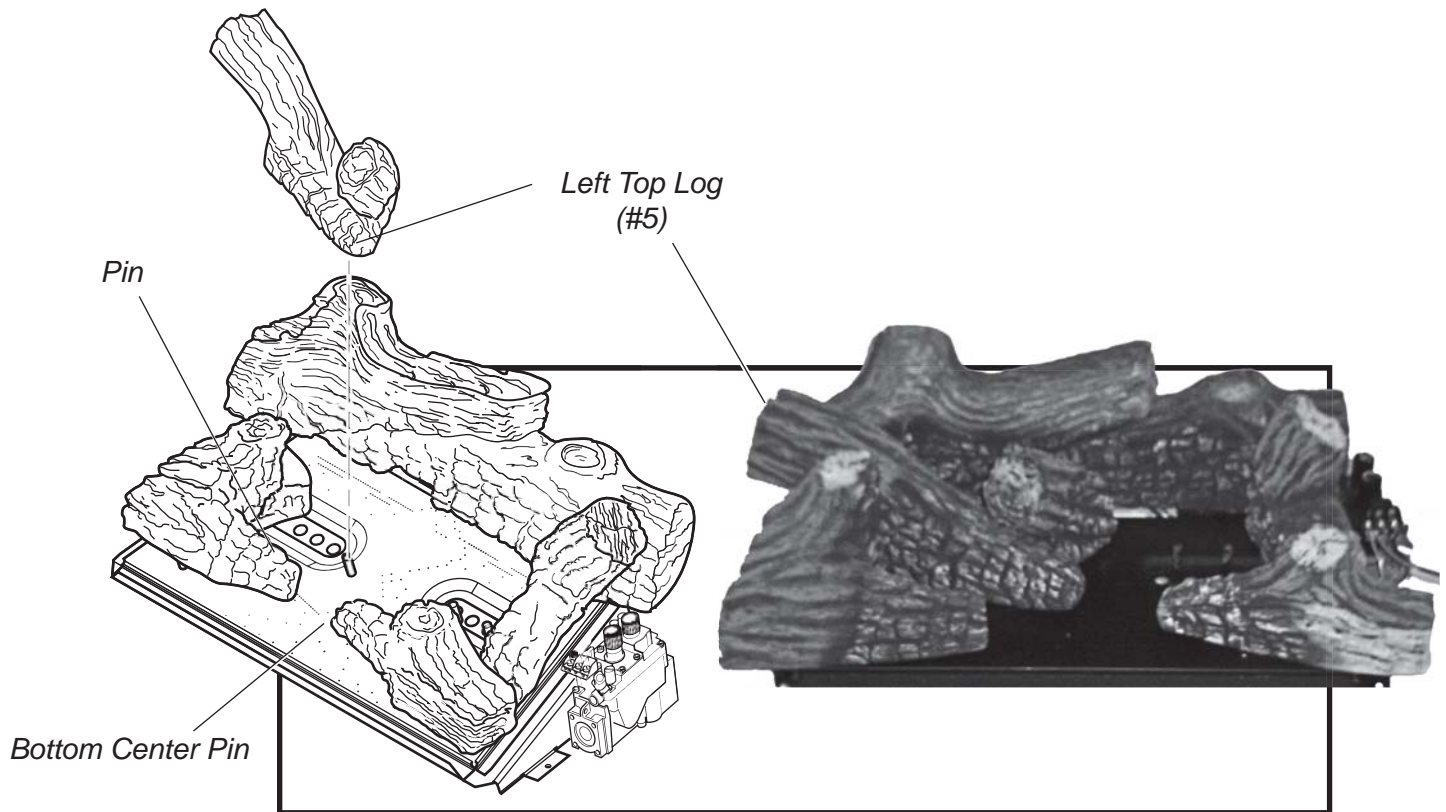

Figure 23 - Installing Left Top Log (#5)
5. Place right end of left top log (#5) on bottom center grate pin. Place left end of left top log (#5) on top of the left base log. See Figure 23.